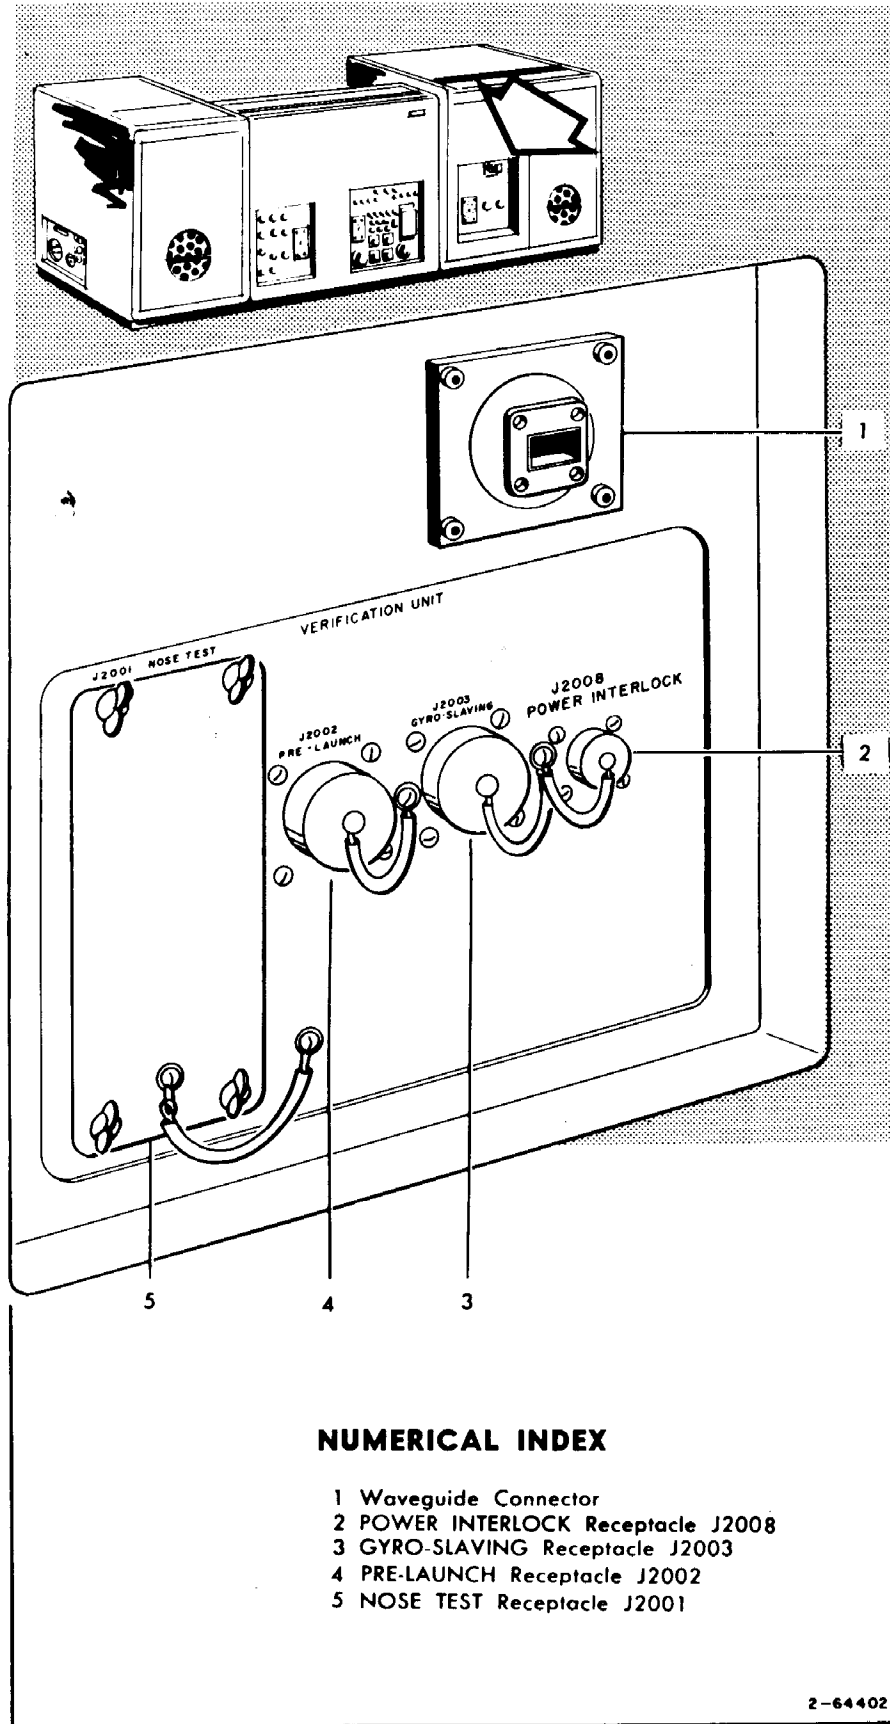

Figure 3-21. Verification Unit
- e. Connect flexible waveguide from waveguide connector (1, figure 3-21) on Verification Unit panel.